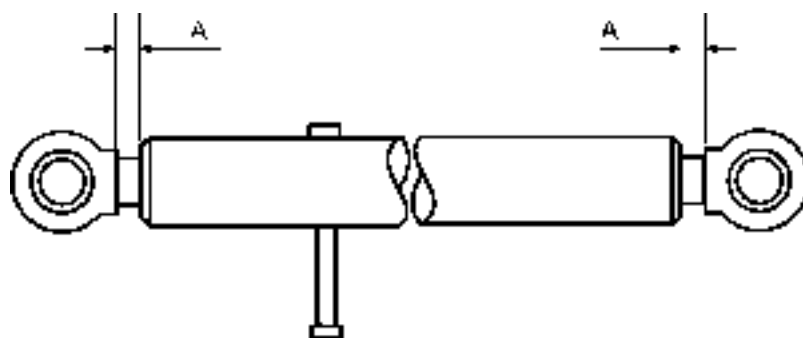

Fig. 4.27. Upper strut adjustment
1. To pitch the blade forward (increasing suction angle), raise the blade several centimeters off the ground. Shut off the engine. Refer to "STOPPING THE ENGINE". Then extend upper struts (3) on each side of the blade an equal amount in the range of dimensions A given on Fig. 4.27.
2. To pitch the blade backward (decreasing suction angle), the upper strut must be shortened on each side of the blade an equal amount A given on Fig. 4.27.